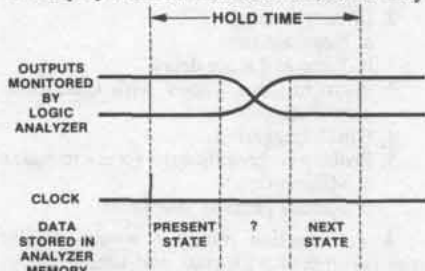

Figure 1. The data captured by a synchronous analyzer may be ambiguous, if the hold time is positive.
A state analyzer uses a clock or strobe from the system under test, not an internal reference clock, to synchronously sample system data. It monitors the word (state) parameters and the word (state) sequence of the system under test and must read data exactly the same as the system hardware. This implies that a state analyzer should require no hold time, i.e., there should be no period during which the data must remain stable after the strobe edge. If the analyzer hold time is positive, the state clocked into the analyzer becomes ambiguous, with three possibilities (figure 1). The state recorded may be (1) the present state (2) the next state or (3) a transitional state.